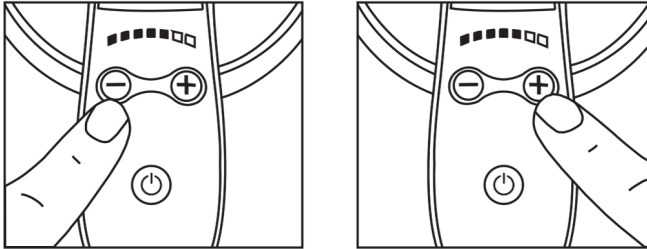

figure 5
- Maximum Speed is adjusted by pressing the “+” or “-” buttons on the buttons plate of the Sander. Each touch will raise. - see figure 5